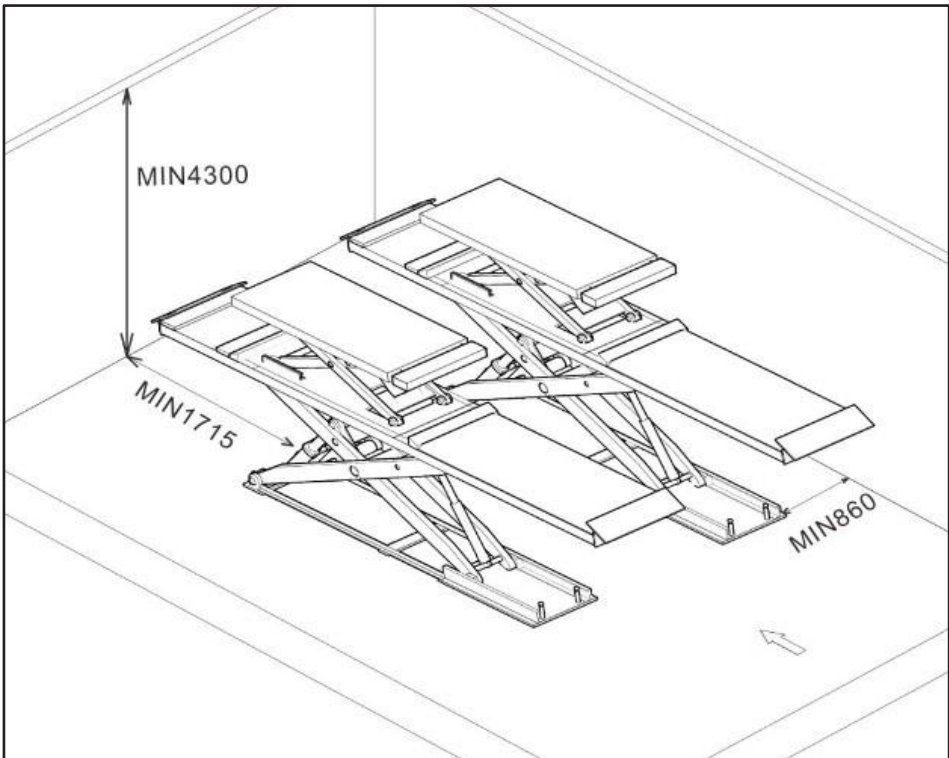

Fig. 8
- The lifting machine must be installed at a specified safe distance from walls, columns and other equipment (Figure 8). The minimum distance from the wall is 1000mm. In order to prevent emergencies and facilitate work, sufficient space for safe passage should also be considered. The power and air sources should be connected to the console at the installation site in advance, and the indoor height should not be less than 4000mm. It is recommended that the lift be installed in the pit, and the installation foundation should be constructed according to the requirements in Figure 8. However, it can also be installed on any indoor floor, as long as the floor level meets the requirements and has sufficient weight bearing capacity (25MPa).